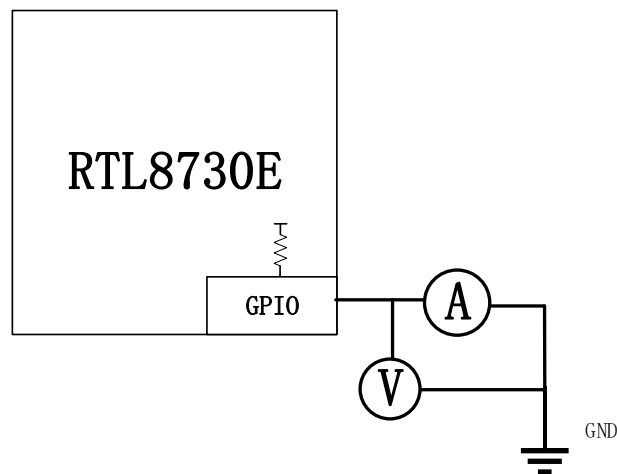

Figure 6-2 GPIO pull up resistor test
- (1) Configure the GPIO to be tested as input mode.
- (2) Configure the GPIO registers to be tested as 1 for gpio@_pu and 0 for gpio@_pd.
- (3) For GPIOs with multiple pull-up resistance values, it is necessary to change the configuration of the register gpio@_pupdc and test them separately.
- (4) When the ammeter is not connected, measure the voltage of the GPIO pin to be tested, and the voltage value is V_1 .
- (5) According to Figure 6-2, only connect the ammeter to test. At this time, the current value is I_1 , and the pull-up resistor is $R_{pu}=V_1/I_1$.